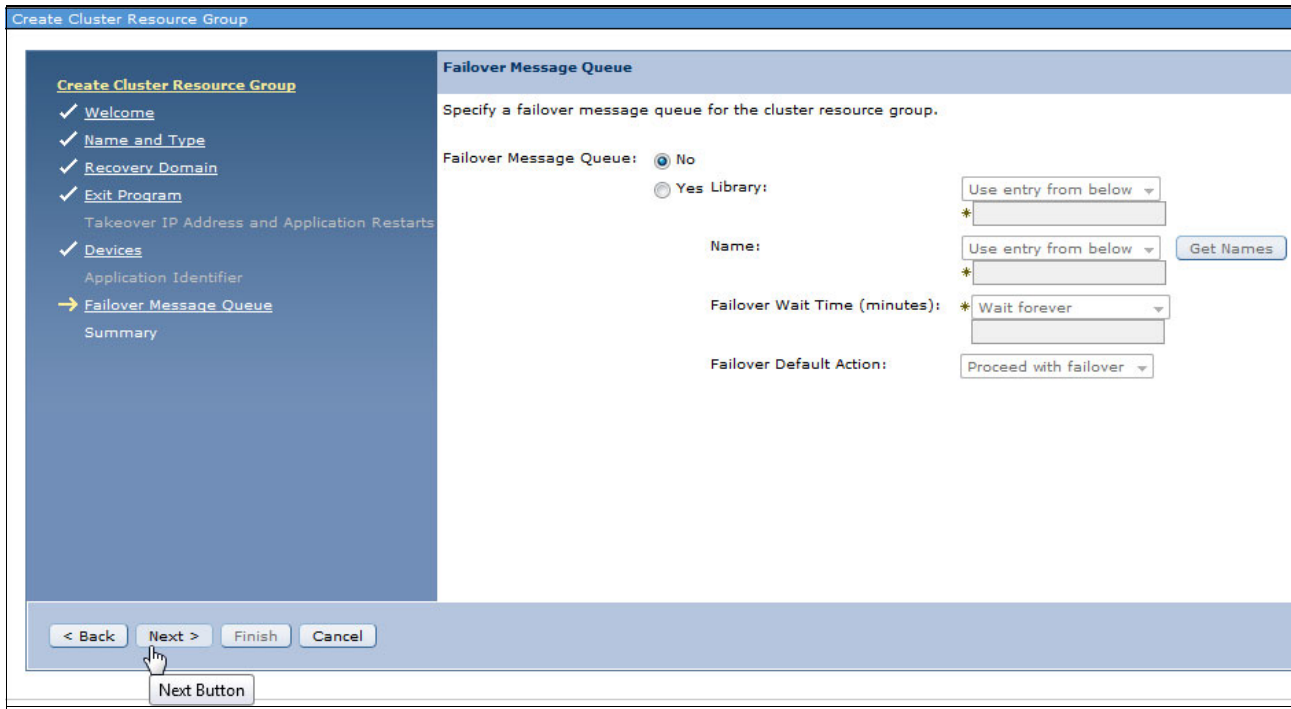

Figure 4-30 Create Cluster Resource Group, specifying a failover message queue
27. In the Create Cluster Resource Group Failover Message Queue panel, you can define a failover message queue for the cluster resource group. As our example already defined a cluster-wide failover message queue, it does not define another one at the cluster resource level, as shown in Figure 4-30. Click **Next**.